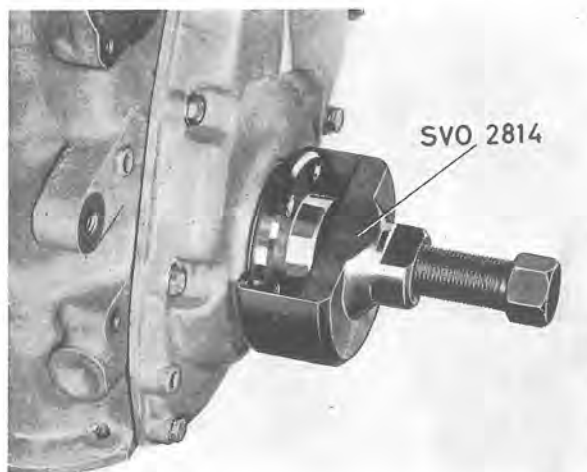

Fig. 2-36. Removing polygon hub
3. Remove the center bolt and take off the polygon hub with puller SVO 2814, see Fig. 2-36. (First check to see whether it is possible to pull off the polygon hub by hand.)